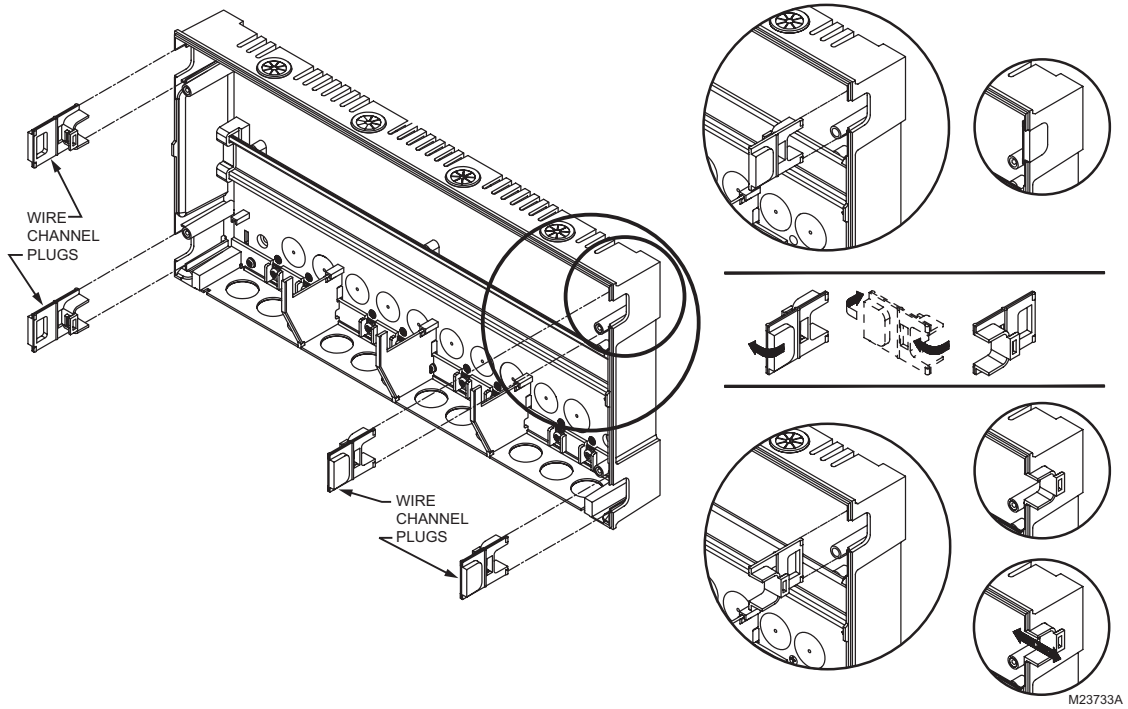

Fig. 3. Orientation of wire channel plugs for creating pass-through wire channel and for joining Control Panel to Expansion Zoning Panels.
1. Remove wire channel plugs from the AQ252 Control Panel and any Expansion Zoning Panels (see Fig. 3).
3. Reverse wire channel plugs and re-insert them into their slot, to form a wiring channel between the Control Panel and the Expansion Zoning Panel (see Fig. 3) and to connect the two panels together.